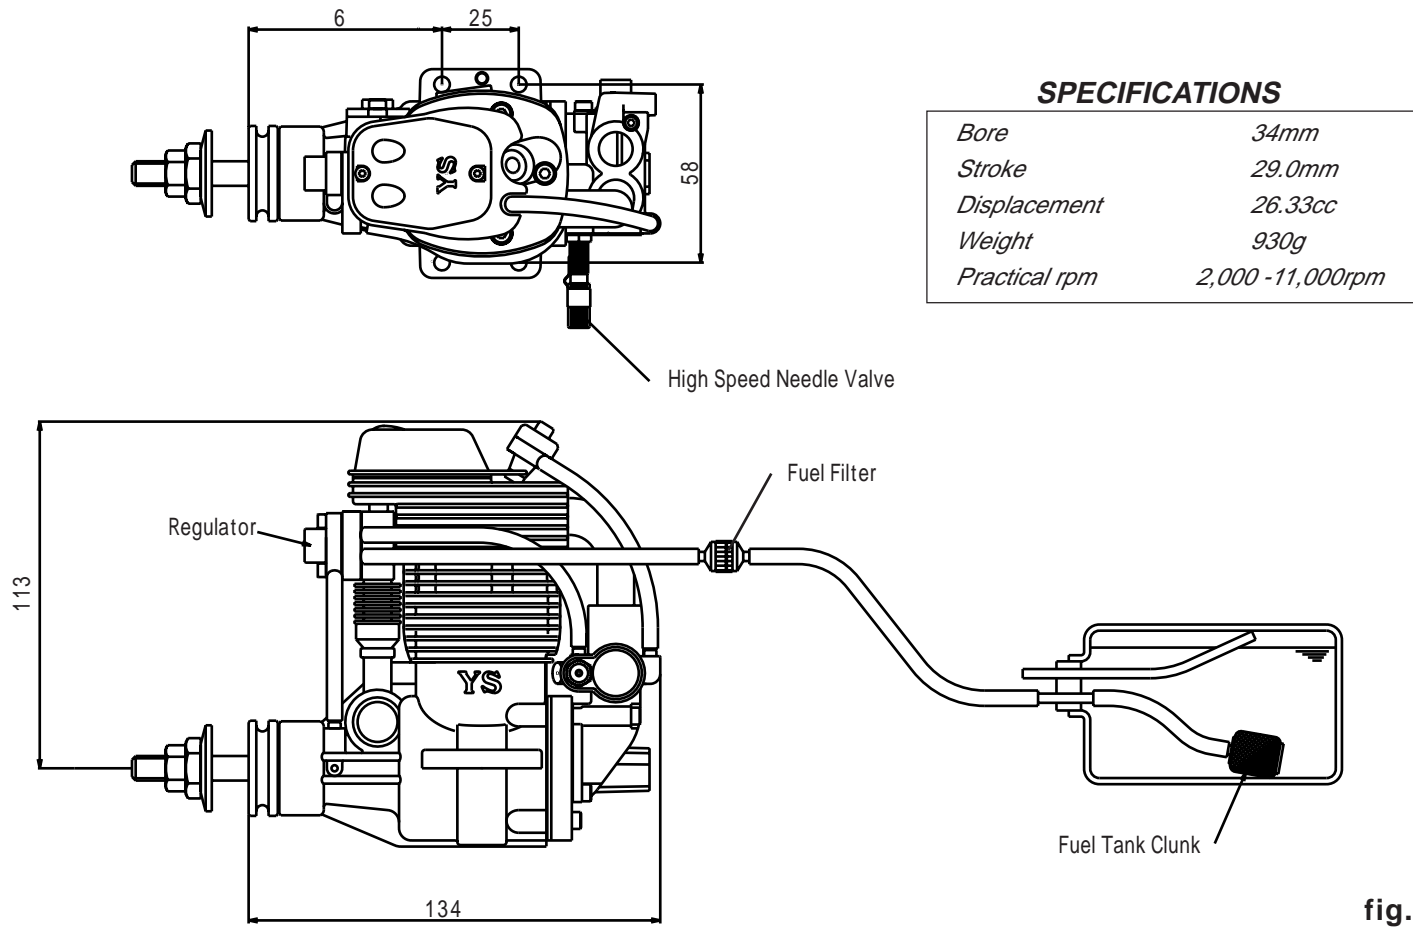

fig.1
- 1 Connect the engine to the tank as shown in fig.1. The recommended fuel tank size is 18 to 24 oz. A standard clunk type fuel tank may be used. If this type of tank is used, you must use the special clunk supplied with the engine. Please note that with this clunk, all of the fuel cannot be used from the tank. As soon as any part of the clunk becomes exposed, the engine will stop due to air entering the fuel pump.